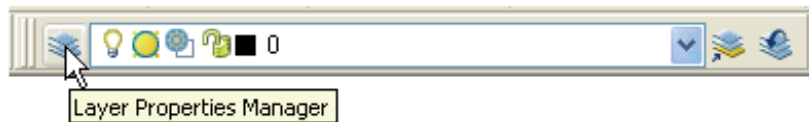

Fig. 4.17 The **Layer Properties Manager** tool icon in the **Layers** toolbar
1. **Left-click** on the **Layer Properties Manager** tool icon in the **Layers** toolbar (Fig. 4.17).